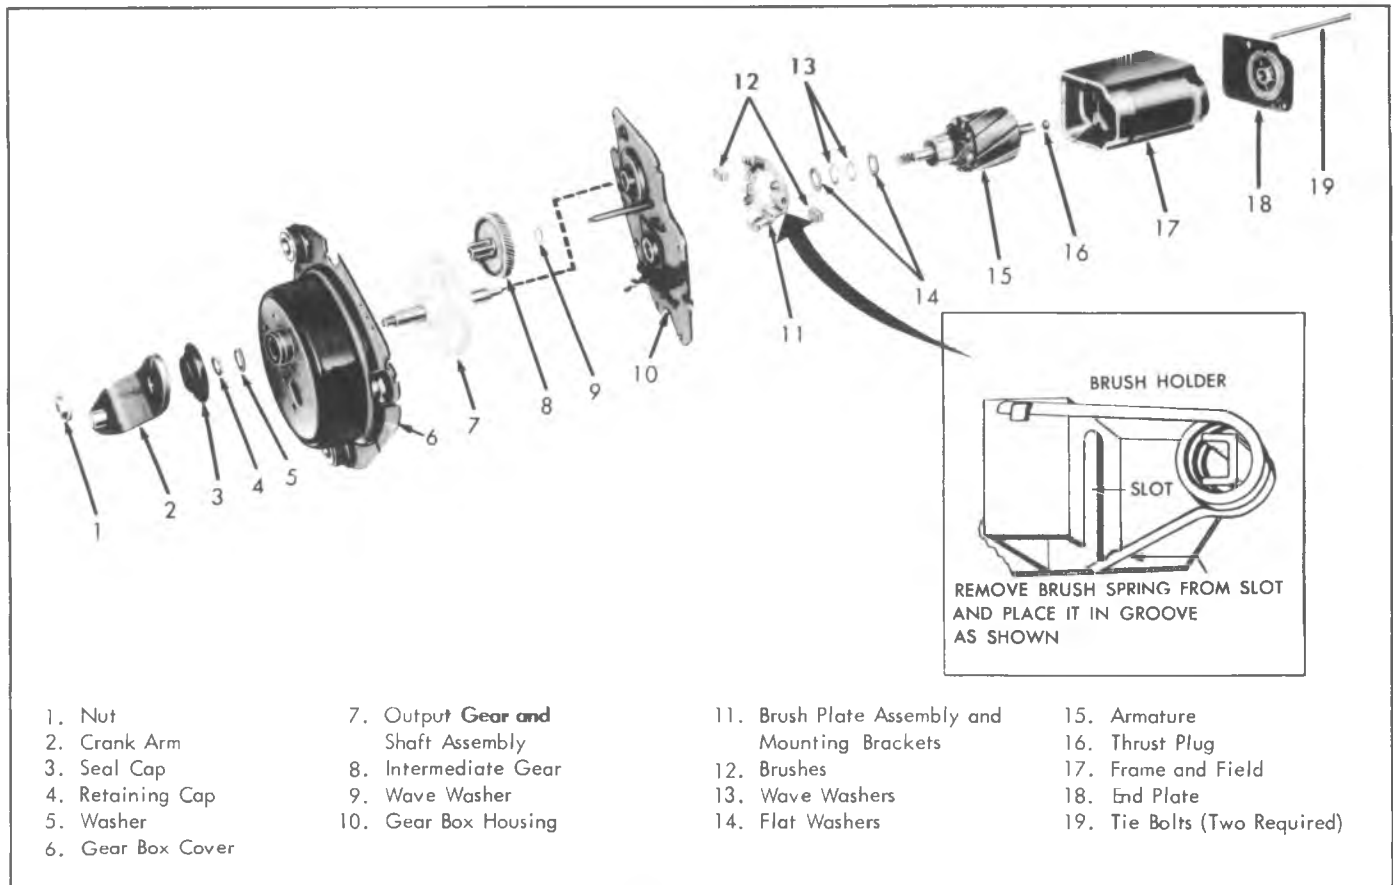

Fig. 8C-34--Wiper Motor and Gear Box Assembly
Disassembly (Fig. 8C-34)
2. Remove washer pump drive cam as required (figs. 8C-33 and 8C-34). The cam is pressed on the shaft but can be wedged off by using two screwdrivers between cam and plate.